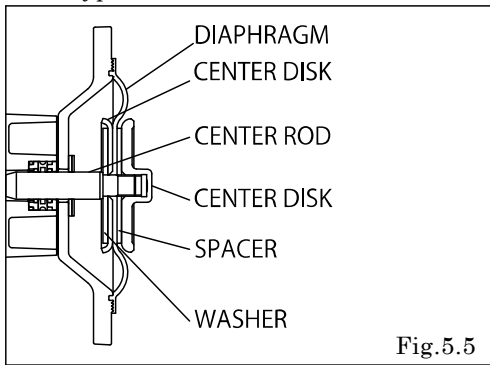

Fig.5.5
- For the model with NBR diaphragm, put the spacer into outside of the diaphragms. (cf. Fig.5.5).
- Pull out the diaphragm to one side and assemble the out chamber with Fig. 5.5、5.6、5.7 condition. Bolts should not be fully tightened at this point.
- Pull out the diaphragms to the other side and assemble the out chamber with Fig. 5.5、5.6、5.7 condition. Bolts should not be fully tightened at this point.